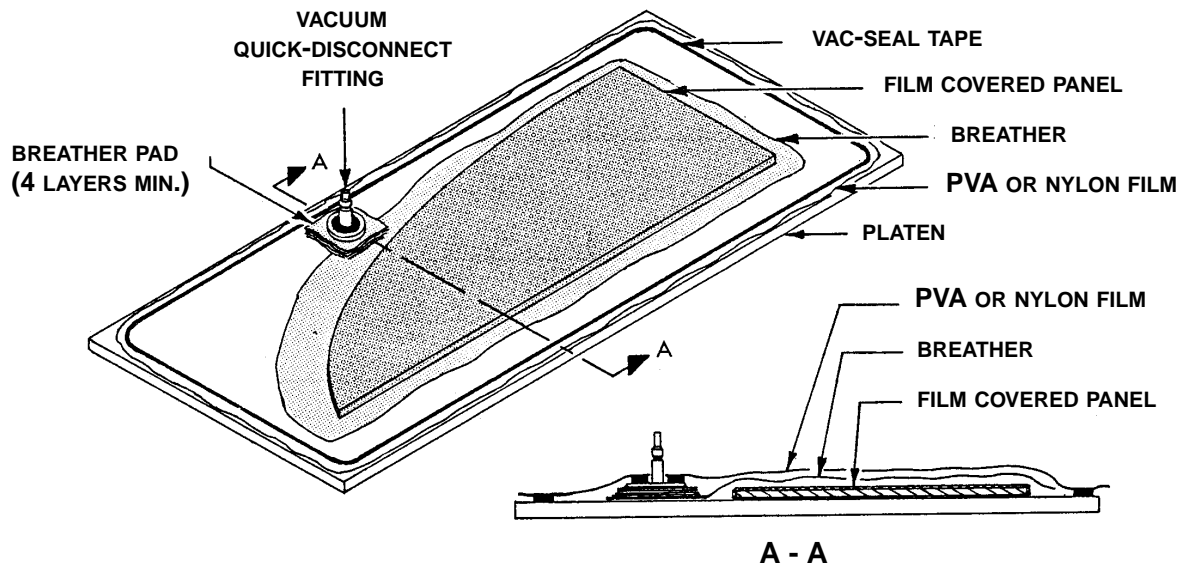
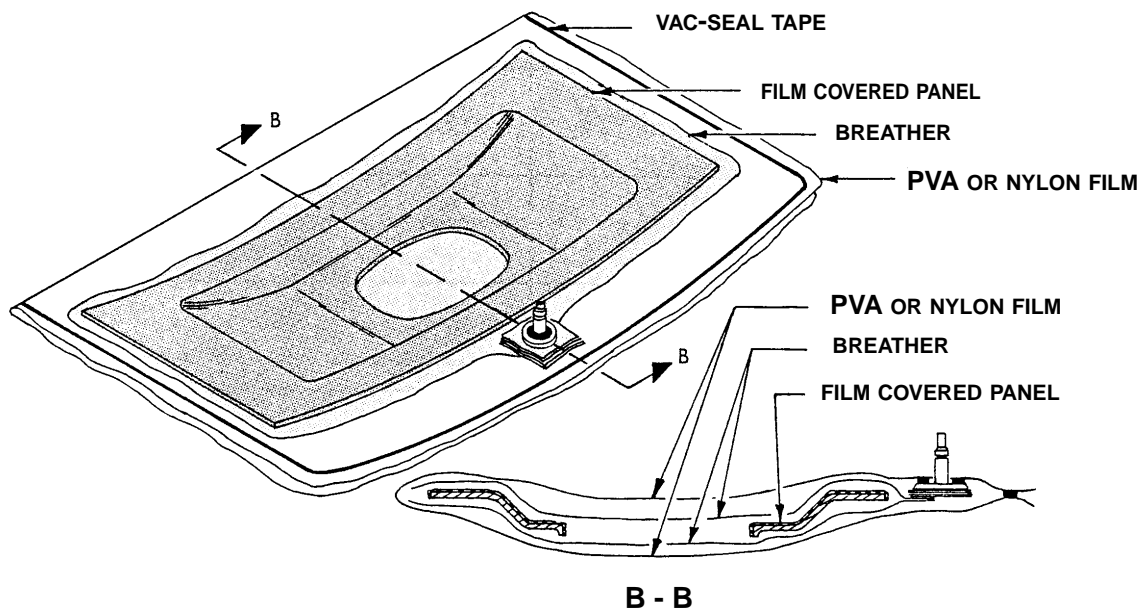

FIGURE 2 - VACUUM BAG (ON TOOL)
FIGURE 3 - VACUUM BAG (NO TOOL)
- Step 2. Seal the assembly (tool where applicable, component and film) in a vacuum bag using standard shop practice and apply 2 - 5" Hg of vacuum. See Figure 2 and Figure 3.